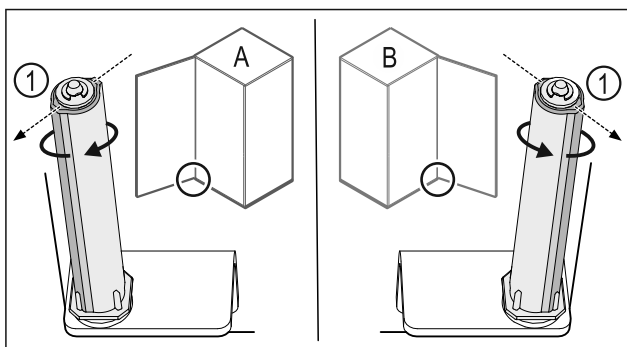

Fig. 28 Left-hinged (A) / Right-hinged (B)
- Turn the closing system against the resistance until the bar of the closing system Fig. 28 (1) points outwards.